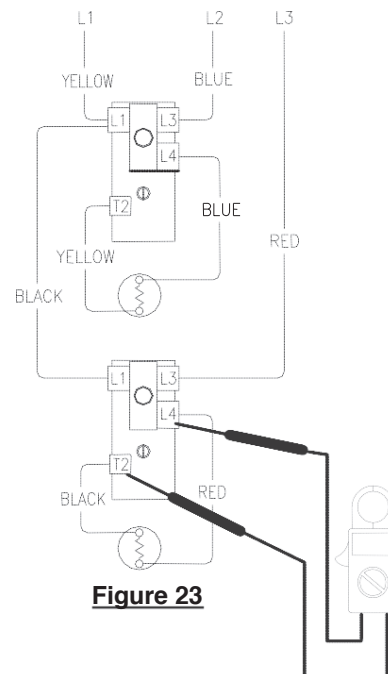

Figure 23
6. Check across terminals L4 and T2 of lower thermostat (see Figure 23).